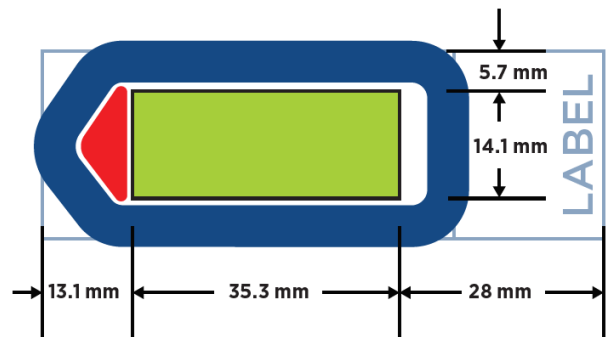

Figure 72: Slide dimensions
- Tissue sections must be placed in the **Scan Area** (shown in green) (see Figure 72) in the center of the slide and be **no larger than 35.3 mm long by 14.1 mm wide**. They should not overlap the slide gasket or the Tip Calibration area (shown in red). Tissues that will be prepared using the BOND RX/RX^m must also fit within the white dots on the Apex BOND slides. If mounting multiple sections per slide, ensure that tissues are at least 2–3 mm apart and still fit within the Scan Area.